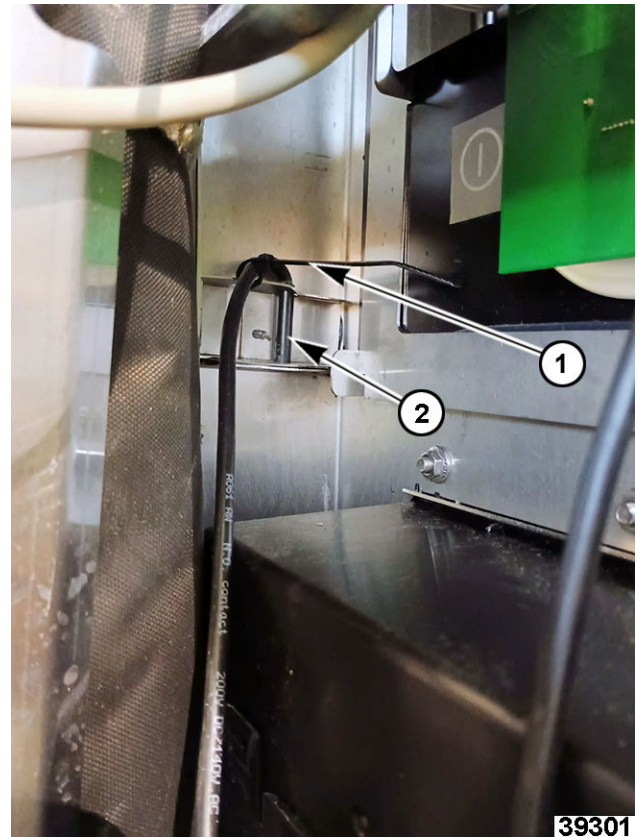
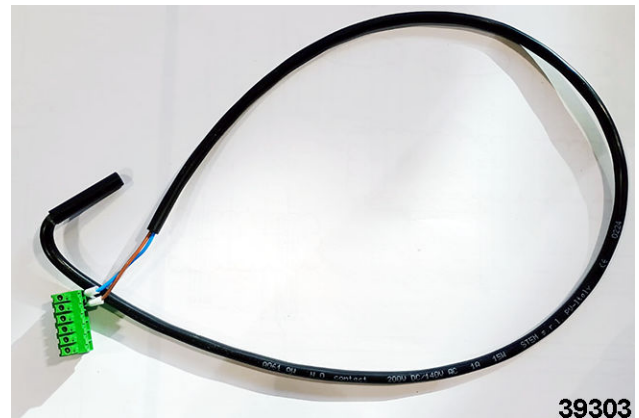

Fig. 45
Fig. 46
4. Remove wire tie on reed switch (1, Fig. 45).
5. Pull switch (2, Fig. 45) up to slide out harness (Fig. 46).